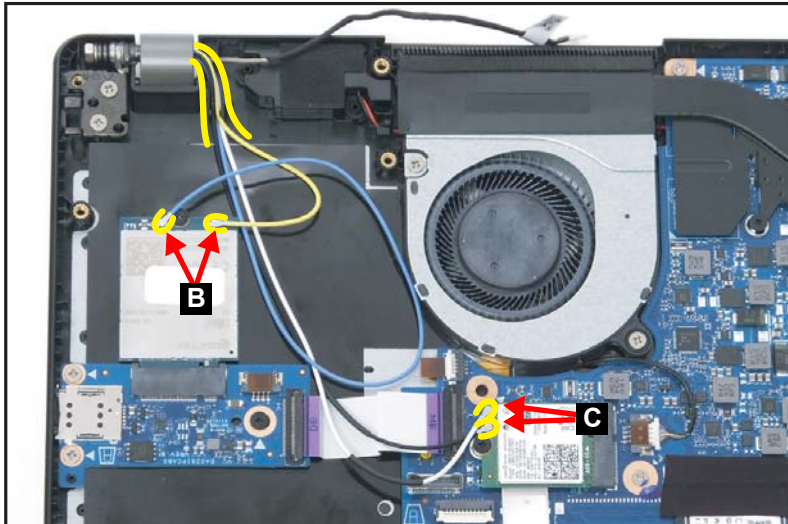

Figure 1-36. LCD Module Removal
4. Disconnect the LTE antennas cables (B) from the LTE module connectors (Figure 1-36).
5. Disconnect the WLAN antennas cables (C) from the WLAN module connectors (Figure 1-36).
6. Unroute the LTE and WLAN antennas cables from the guides on the top assembly (Figure 1-36).